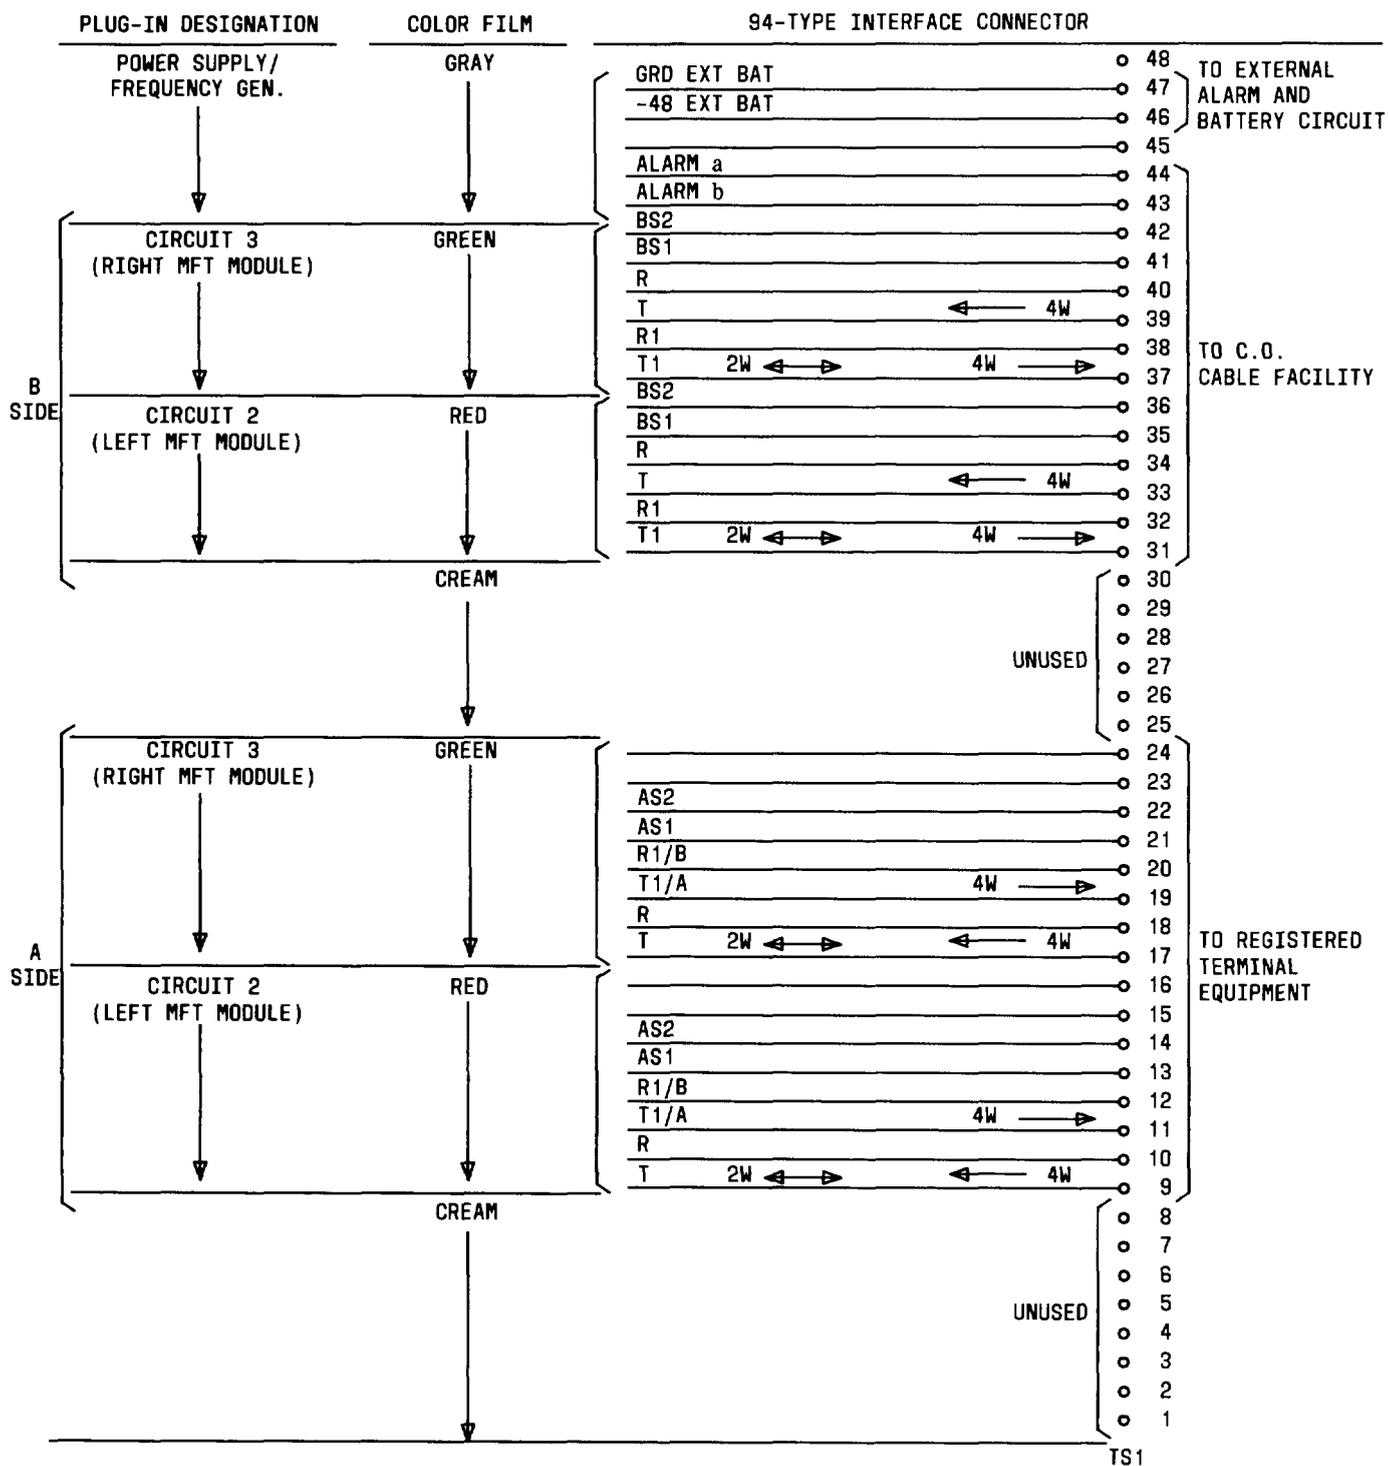

Fig. 2—Interface Lead Designation for TS1 Connector
mounting backplate. Figure 2 gives the lead plan for this interface connector.
Interface connections to each mounting slot are made at the TS1 connector on the mounting backplate. Figure 2 shows the lead plan for the J99400A housing.
2.08 A combined fuse and alarm circuit in the J99400AA unit monitors both -48 volt outputs and the 20 Hz output. Failure of any output or loss of ac input generates an alarm signal and automatically transfers both dc outputs and the input of the 20-Hz generator to an external, fused battery, if provided. See Fig. 2 for connections.